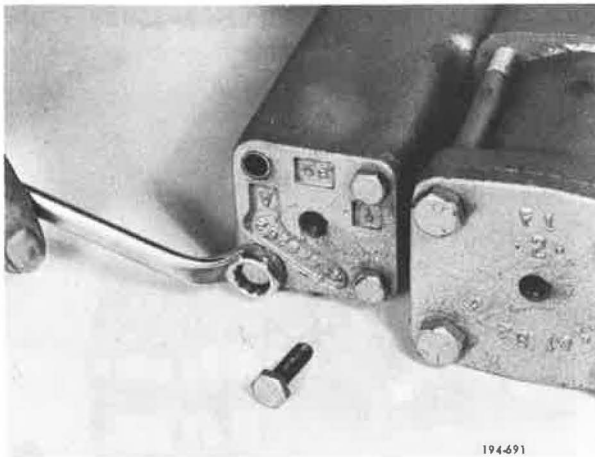

Figure 5-350. Removing Capscrews
3. Remove reverse shift cover capscrews. See Figure 5-350.